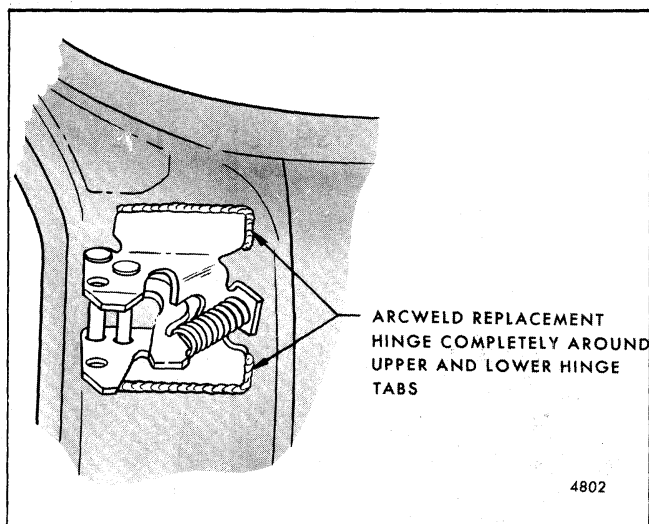

Fig. 5-89-Body Side Door Hinge Strap Installation - "H" Styles
9. Remove door and complete arc welding of hinge. Arc weld completely around upper and lower hinge tabs as shown in Figure 5-89.